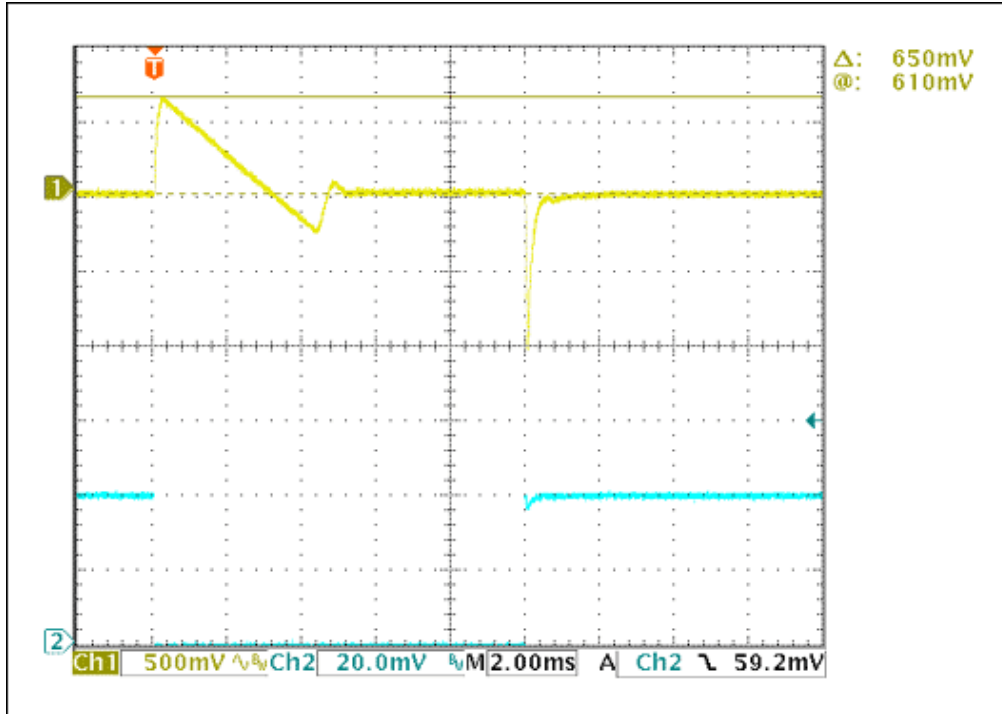

Figure 9. Load transients zero to 1/2 full load.
**Figure 8** shows load transients when switching between 1/2 load and full load. A fixed 400mA load is present, and a pulsed 400mA load is added in parallel at the output. If load is pulsed from 0mA to 400mA, as in **Figure 8**, the load transients increase considerably. However load transients are low, as shown in **Figure 9**, and are nearly independent of DC load current above 50mA.